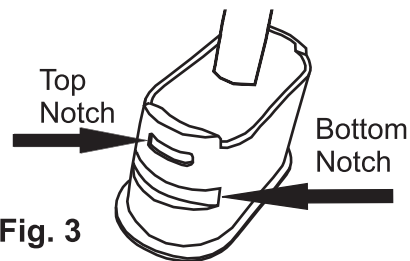

Fig. 3
- 3) The sensor module has two notches as shown in Fig. 3